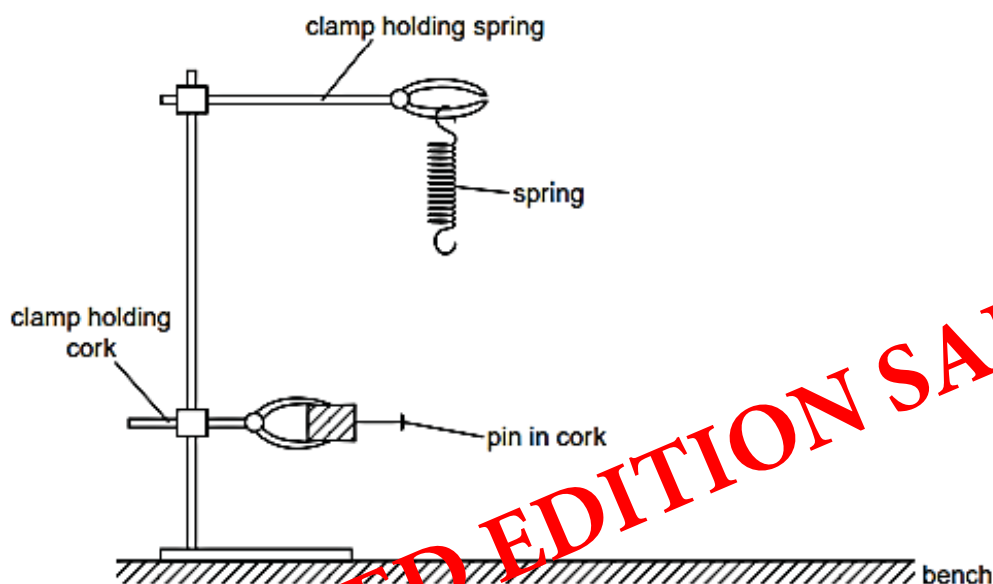

Fig. 4
3. Set up the apparatus as shown in Fig. 4, with no mass attached to the spring. The pin should be positioned so that when a mass is attached to the spring, the pin is close to the mass.